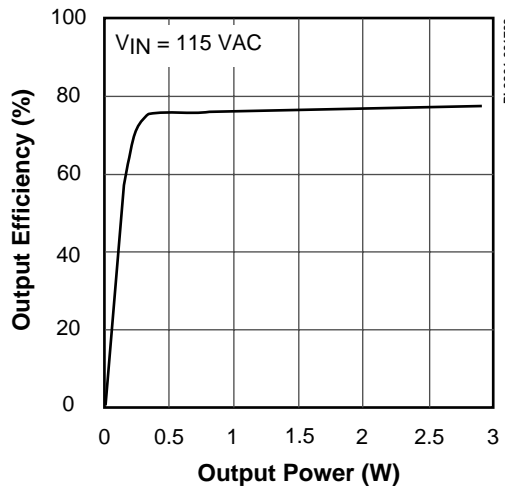

Figure 8. Efficiency vs. Output Power, 115 VAC Input.
**Efficiency (Load Dependent)** – The curves in Figures 8 and 9 show how the efficiency changes with output power for 115 VAC and 230 VAC inputs. Due to the *TinySwitch* regulation scheme, the efficiency is relatively constant from 0-100% of output load.